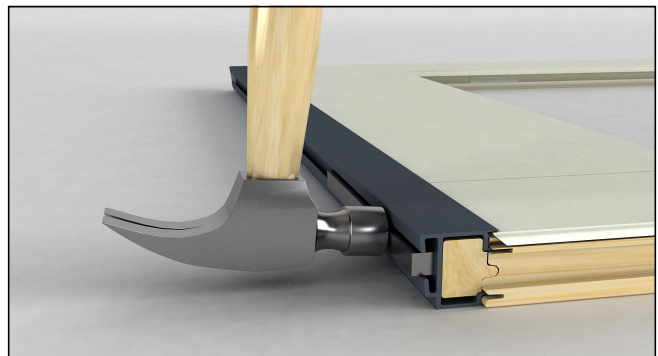

Figure 4
5. Using a hammer, tap the leveling block (with the leveling block filler installed) onto the panel until it is tight to the bottom rail. To avoid damaging the leveling block, use a scrap piece of wood as a buffer. See figure 4.